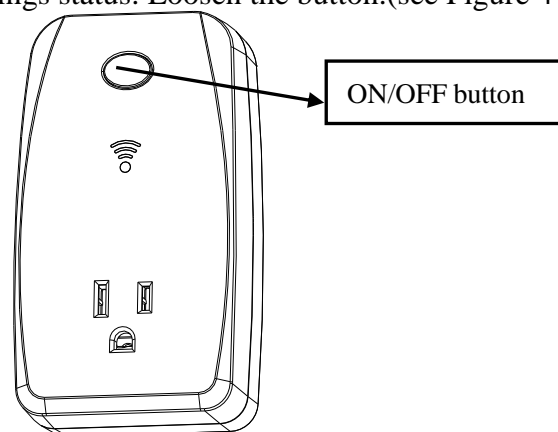

Figure 44
- After the socket is powered on, long press button ON/OFF on the socket panel for around 8 seconds. At this moment the Blue LED in front of the socket will flash from the fast status to slow, which means have been successfully restored to the factory settings status. Loosen the button.(see Figure 44)